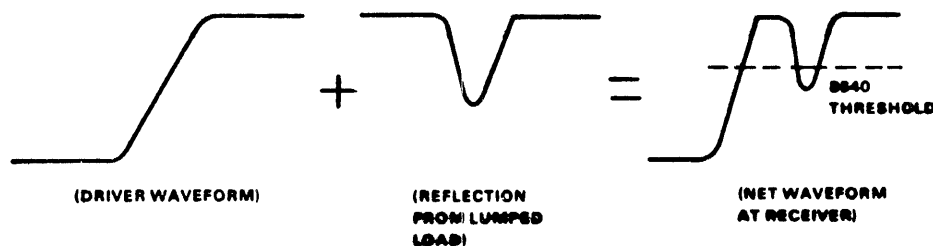

Figure 10. AC Loading Violation
4.1 In multiple backplane systems, each backplane can have up to 20 AC loads. If a load is too large, it may generate a reflection on the LSI-11 bus large enough to create a false logic signal and cause a failure. Figure 10 illustrates such a failure. The reflection may cause the threshold of the 8640 receiver to be crossed a second time.